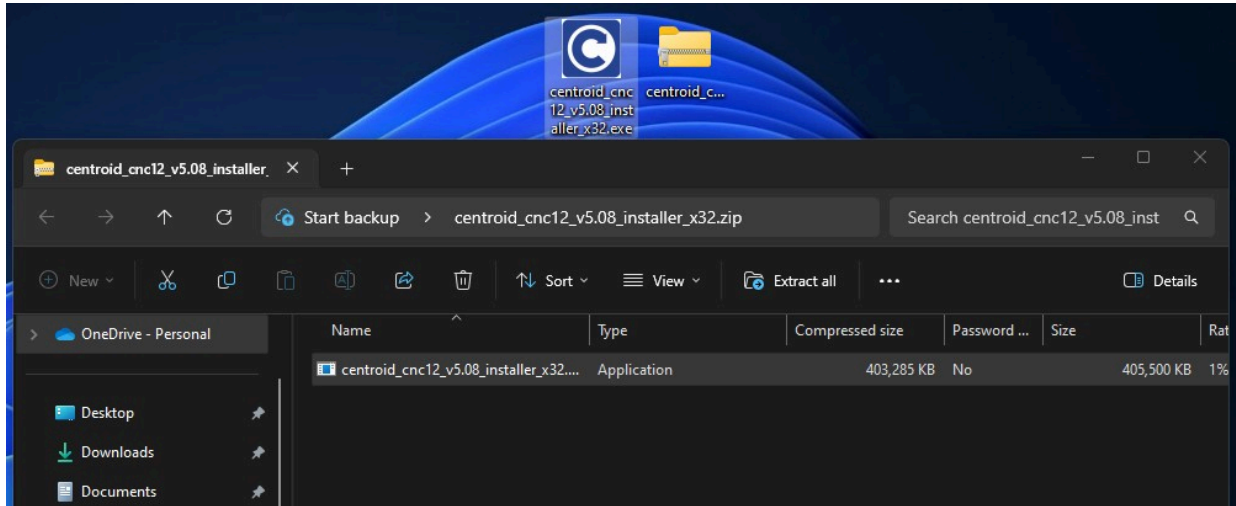

Figure 3.2.1
3. **Drag the installation folder from the compressed file to your desktop as shown below in Figure 3.2.1.** The folder in this example is called centroid_cnc12_v5.08_installer_x64.zip, your version may be newer but the name will be the same other than the “v5.08” which signifies the CNC12 version. Alternatively, you may extract the .zip folder to your desktop.